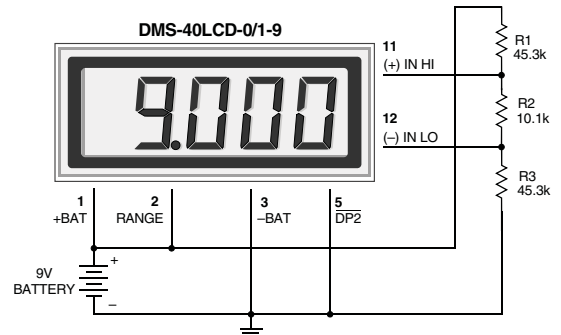

Figure 8. Power Supply Monitor (9V-Powered Models)
6. Power Supply Monitoring: A popular application for DATEL's low-power LCD meters is monitoring the supply voltage in battery-operated portable equipment. Figure 8 demonstrates how a 9V-powered DMS-40LCD can be used to monitor its own supply. The meter used is the DMS-40LCD-0/1-9 configured for its ±2V input range (pin 2 connected to pin 1). A three-resistor voltage divider is used to attenuate the battery voltage and also to satisfy the requirement that the input voltages applied to pins 12 and 11 be at least 1.5 Volts above and below the battery voltage applied to pins 1 (+BATTERY) and 3 (-BATTERY). The divider should be designed so that 1/10th the battery voltage falls across the inputs to the meter.